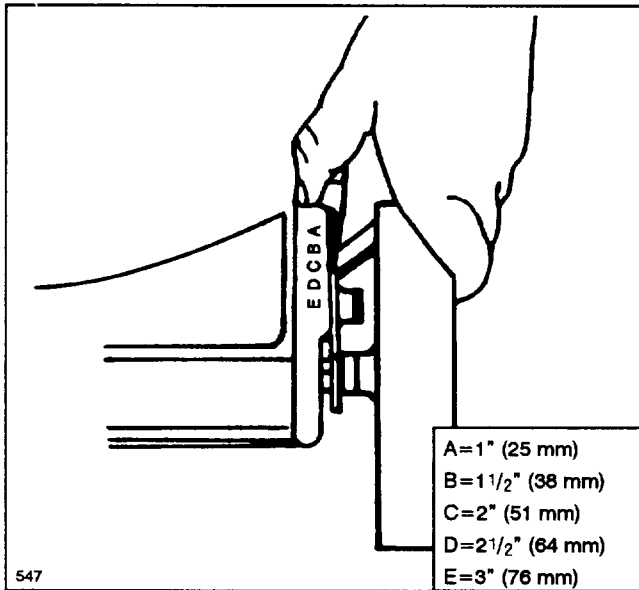

Figure 10
Five letters cast into the housing represent the height-of-cut settings (Fig. 10).
2. For easier adjustment, lift housing up so wheel is off ground. Do not put fingers under housing when lifting. Squeeze adjusting lever toward wheel and move to desired setting (Fig. 10). Ensure pin on adjusting lever engages notch in housing. Adjust all wheels to the same setting.